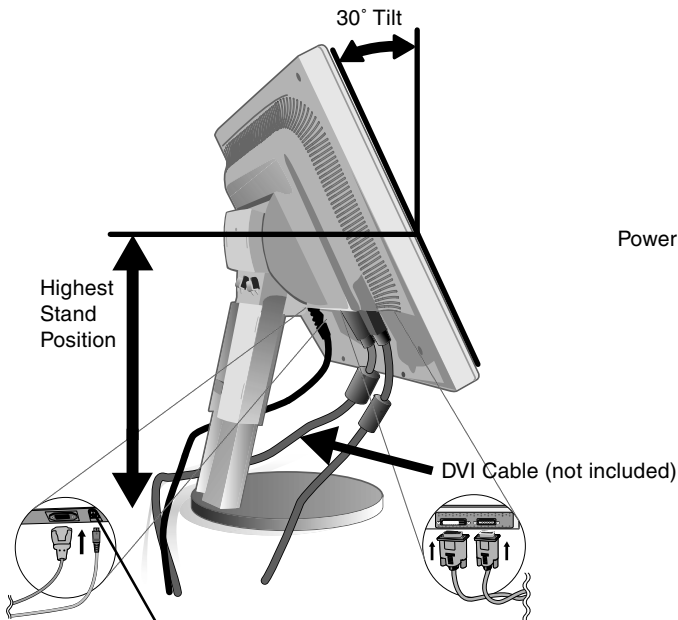

Figure C.1
3. Place hands on each side of the monitor to tilt the LCD panel 30-degree angle and lift up to the highest position (**Figure C.1**).
4. Connect all cables to the appropriate connectors (**Figure C.1**).